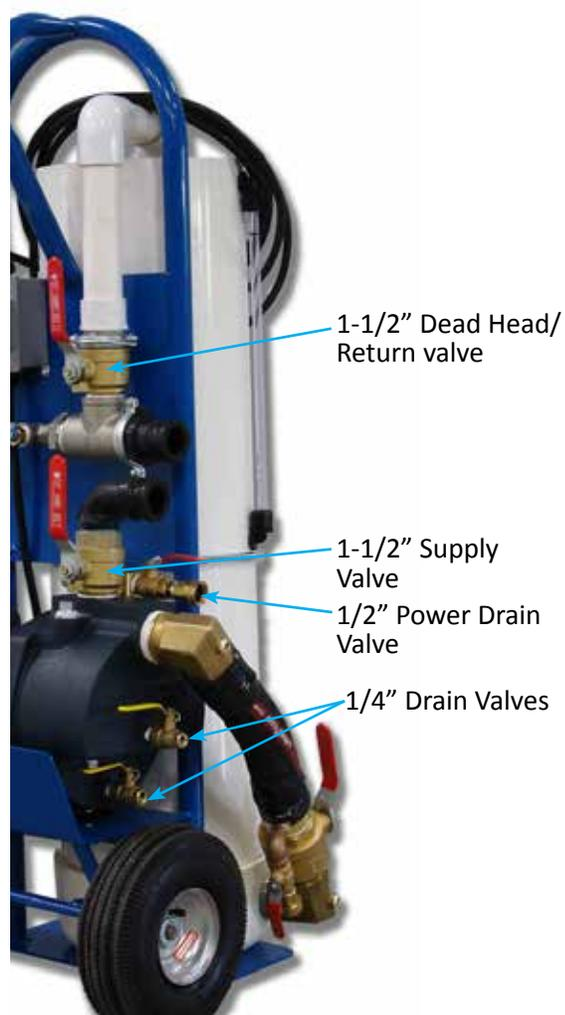

Figure 8: Flush Cart Valves in flushing steps
8. Close 2" tank isolation valve (Figure 5) and open the 1-1/2" dead-head valve (Figure 8).
9. Open 1/2" fill valve (Figure 5) and allow the loop to fill. Watch the fluid level in the tank via the sight tube. When the tank is nearly full, shut off the 1/2" fill valve and 1-1/2" supply valve (Figure 8).
10. Open the 2" tank isolation valve (Figure 5) and energize the pump. Slowly open the 1-1/2" supply valve (Figure 8) approximately 1/4 to 1/2 open. Air and debris will be pushed through the return piping. Debris will be captured in the bag filter and air will be released to the atmosphere.
11. Regulate the fluid level in the tank with the 1/2" fill valve (Figure 5) and the 1-1/2" supply valve (Figure 8) while the pump is running. Do not allow the fluid in the tank to drop too low or air will be pushed back into the loop extending flushing time.
NOTE: When the pump is running any air remaining in the loop will be pressurized. Therefore, if the pump is powered off during the flushing process the compressed air will expand pushing the loop fluid back in the tank. This could cause the tank to overflow. If the pump must be shut off during the process, close the 1-1/2" supply valve (Figure 8) and the 1-1/2" dead-head/return valve (Figure 8) to prevent fluid from returning to the tank.
12. When the fluid level remains relatively stable ensure that the 1-1/2" supply valve (Figure 8) is fully open.
14. While the pump is running, "dead-head" the pump by turning off the dead-head/return valve (Figure 8). Then, quickly reopen the valve allowing the fluid to return to the tank. This process drives the loop pressure up thereby compressing any air remaining in the loop. Quickly opening the valve creates a sudden high velocity surge that helps dislodge air into the fluid stream where it can be returned to the tank.
17. Close the 1-1/2" dead-head valve (Figure 8) while watching the fluid level in the sight tube. The dead-head process drives the static loop pressure to approximately 50 psi. Since fluid is incompressible but air can be compressed, this procedure shows whether air remains in the loop. In general, the fluid should not drop more than about 3/8" to 3/4" on a typical residential system. The slight drop in fluid is due to the expansion of the ground loop piping, and the actual drop will depend on the loop size (i.e. how much total pipe is in the loop) and fluid temperature.
18. Open the 1-1/2" dead-head valve (Figure 8) and allow the fluid to continue to circulate.
23. Close the 1-1/2" dead-head valve (Figure 8).
24. Close the 1-1/2" supply valve (Figure 8) to trap pressure in the system. Turn off the pump.
28. Open the 1-1/2" Supply and Return valves (Figure 8) to relieve the pressure in the hoses.